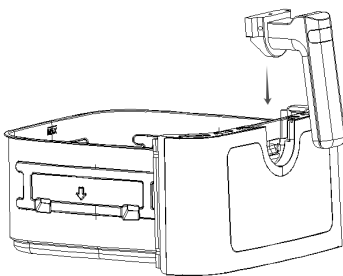
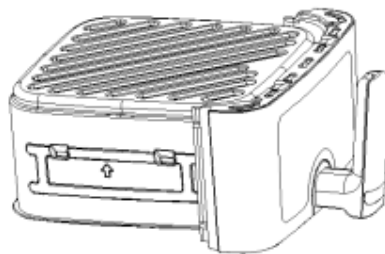

Figure 1
Figure 2
9. Insert the handle into the bowl in the direction shown in Figure 1 until it clicks into place, indicating that the handle is locked in place. Turn the handle up and down and shake the bowl gently as shown in Figure 2 to ensure that it is locked in place .